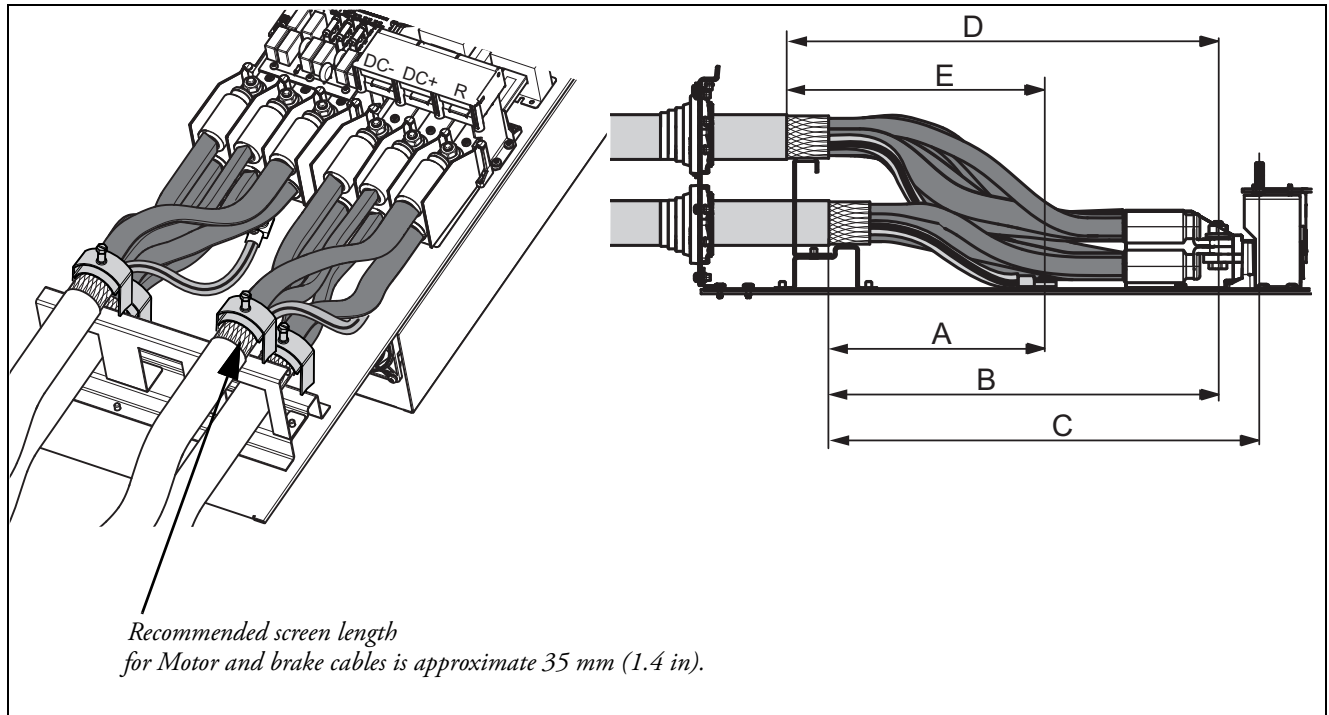

Fig. 61 Distances from the cable clamp to the connection bolts size FA.
4. Strip the cables according to Table 15 and Fig. 61.
3. Strip the cables according to Table 17 and Fig. 61.
Fig. 61 indicates the distance from the cable clamp to the connection bolts for decision of stripping lengths for the cables.